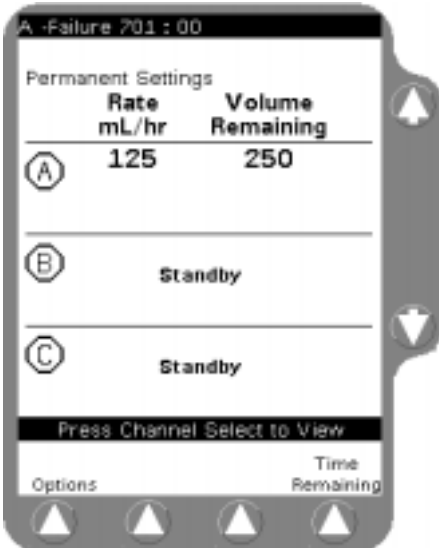

Figure 6-9 Channel Failure Status Line Display
1. If a channel failure (Figure 6-9) occurs, access the programming screen from the Main Display if necessary by pressing the appropriate **Channel Select** key.